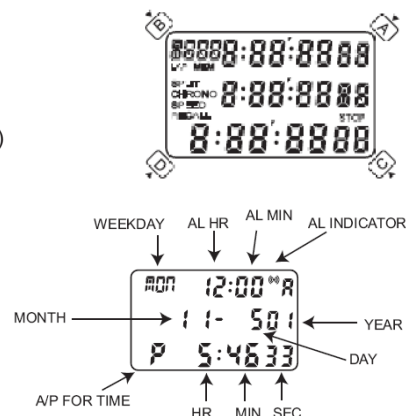

Fig. 24
1. Press C to go to the TIME MODE (fig 24).